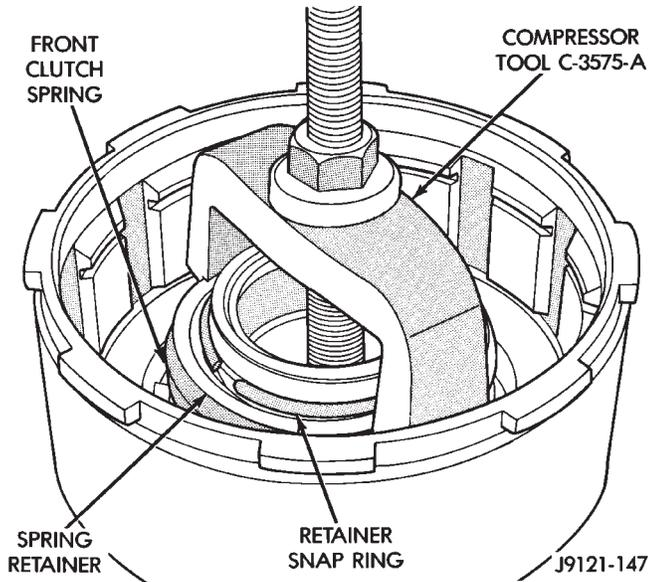

Fig. 176 Compressing Front Clutch Piston Spring
(1) Remove waved snap ring and remove pressure plate, clutch plates and clutch discs.
(2) Compress clutch piston spring with Compressor Tool C-3575-A (Fig. 176). Be sure legs of tool are seated squarely on spring retainer before compressing spring.
(3) Remove retainer snap ring and remove compressor tool.
(4) Remove spring retainer and clutch spring. Note position of retainer on spring for assembly reference.
(5) Remove clutch piston from clutch retainer. Remove piston by rotating it up and out of retainer.
(6) Remove seals from clutch piston and clutch retainer hub. Discard both seals as they are not reusable.
- (7) Compress piston spring and retainer with Compressor Tool C-3575-A (Fig. 176). Then install new snap ring to secure spring retainer and spring.
- (8) Install clutch plates and discs. Install steel plate then disc until all plates and discs are installed. The front clutch uses 5 clutch discs and plates.